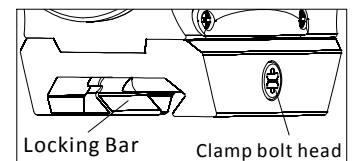

Fig 3
- Insert the appropriate Torx wrench (included) into the clamp screw head, rotate to loosen the cross bolt and then slide the sight into the firearm rail to the appropriate position. Finally tighten the clamp screw. (Fig3)